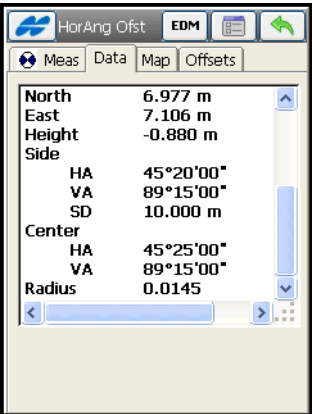

Figure 11-15. Horizontal Angle Offset – Data Tab
- The *Data* tab (Figure 11-15) on the *Horizontal Angle Offset* screen contains the data collected during the offset measurement.